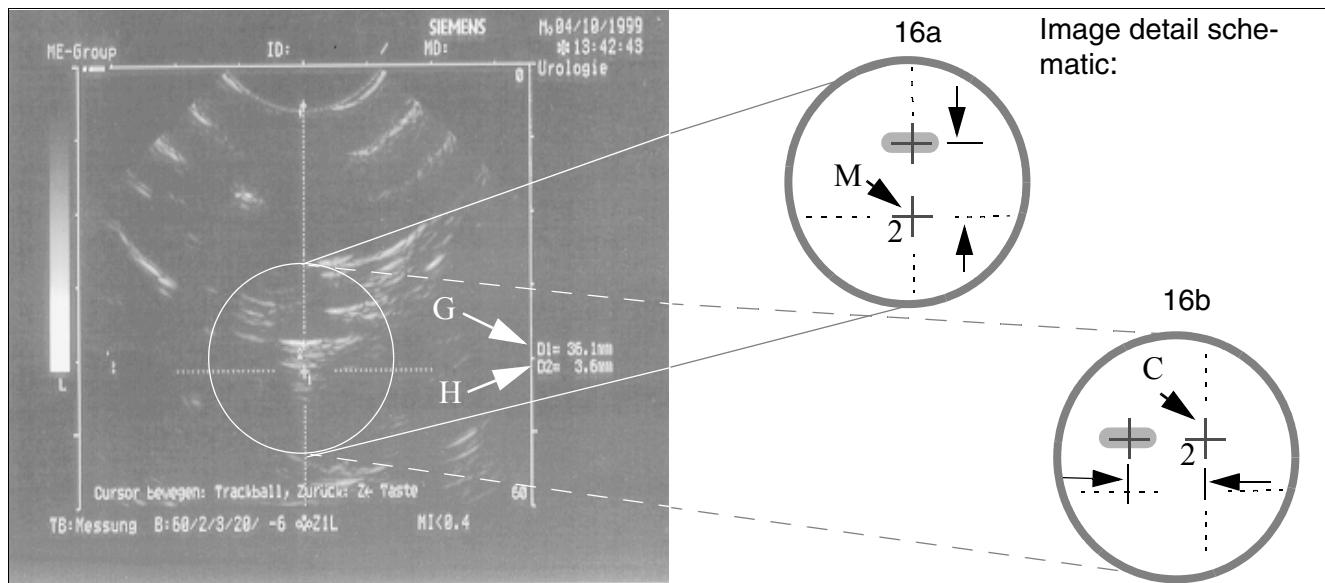

Fig. 16
Checking the distance: Height (16a/Fig. 16)
- The value displayed for "D1" (G/Fig. 16) must be between 33 and 36 mm; if not, move the probe appropriately in the longitudinal axis.
- Move the cross using the track ball horizontally into the center of the white area (16a/Fig. 16) of the isocenter phantom
- The value displayed for "D2" (H/Fig. 16) must be between 1 and 5 mm. This is only valid for the default values, see instructions, SPL1-130.038.01...
Checking the distance: Side (16b/Fig. 16)
- Move the cross "+2" using the track ball onto the horizontal axis of the target line at the height of isocenter (C/Fig. 16).
- If the center point of the white area (16b/Fig. 16) is not in the center (permitted difference: ± 0.5 mm from the center):
If the display of the ball (16b/Fig. 16) appears to the left of the isocenter, the correction value must have a negative sign in front (to the right is a positive sign in front).
- Enter half the value of D2 (H/Fig. 16).
Example:(H/Fig. 16): D2 = 1,2 mm \Rightarrow Enter: -06 .
- Check the difference; if white area (16b/Fig. 16) is not in the center of the isocenter, repeat the procedure.